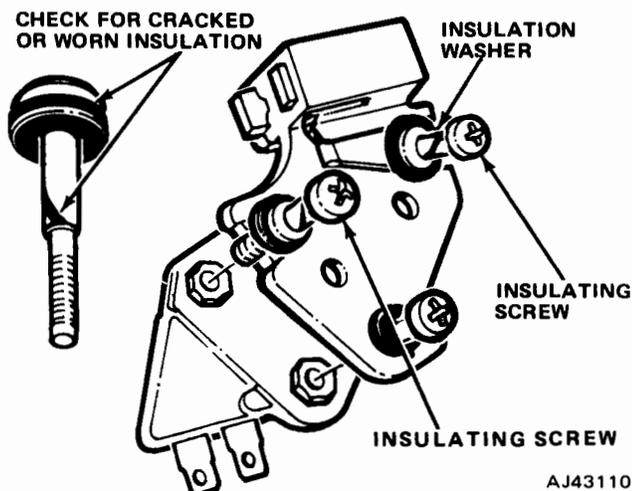

Fig. 3-35 Brush Holders
- (1) Remove two brush holder screws and one diode trio lead strap attaching screw. Note position of all insulator washers for assembly (fig. 3-35).
- (2) Inspect brush holder screws for broken or cracked insulation.
- (3) Remove brush holder and brushes. Carefully note stack-up of parts for assembly.
(3) Attach brush holder into end frame, noting carefully stack-up of parts (fig. 3-35). Allow wooden or plastic toothpick to protrude through hole in end frame.
(4) Install diode trio lead strap attaching screw and washer.
(5) Securely tighten remaining two brush holder screws.